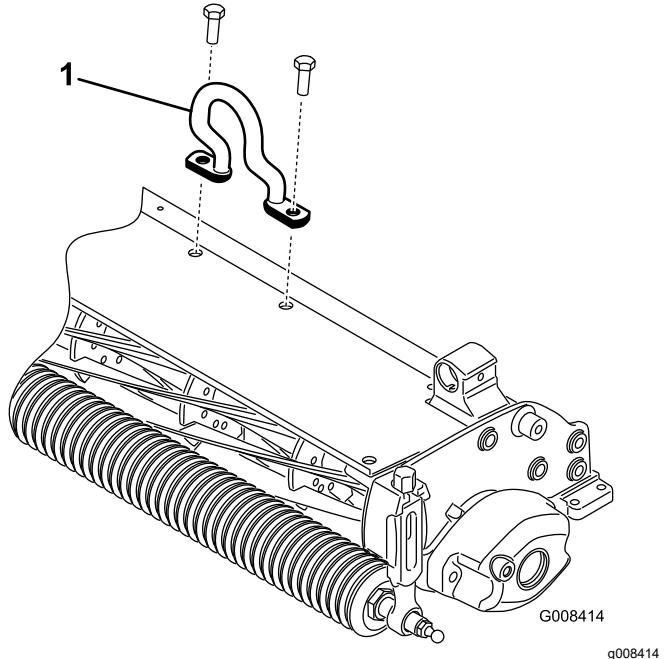

Figure 6
- Install the offset link (Figure 6) to the top of the dethatching unit with 2 capscrews.